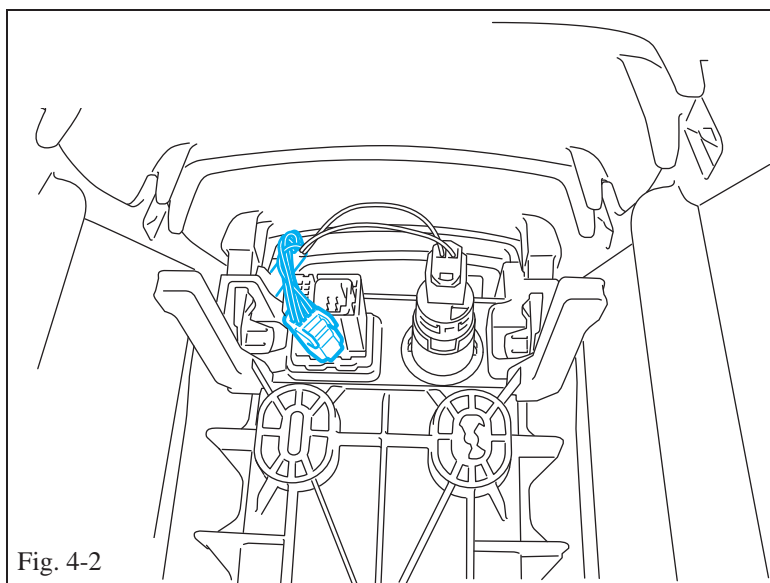

Fig. 4-2
- (b) Disconnect the OE AUX jack connector located in the center console. (Fig. 4-2)